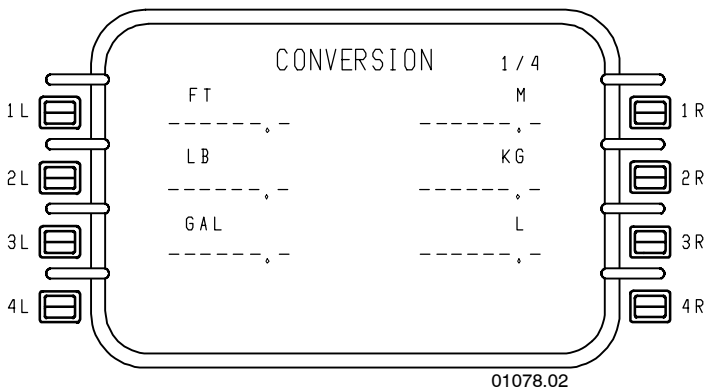

Figure 6-152
- **CONVERSION 1/4** – Figure 6-152 provides conversion between English and metric units for length, weight and volume.